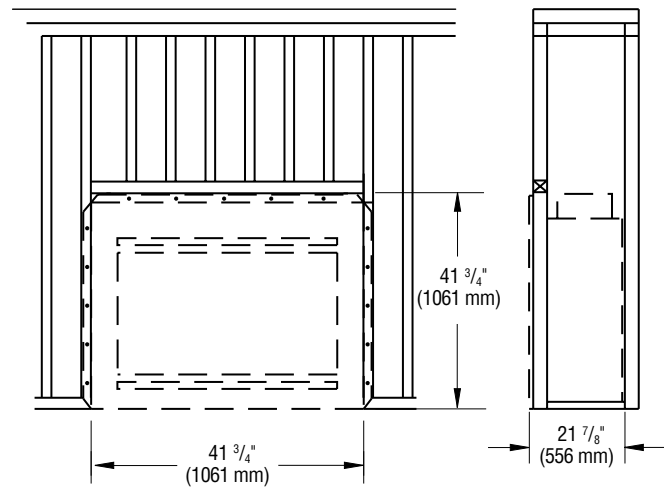

Figure 1 - Framing Dimensions
1. Location must allow for proper clearances (see **Figures 1 and 2**).
1. Frame opening for fireplace using dimensions shown in **Figures 1 and 2**.